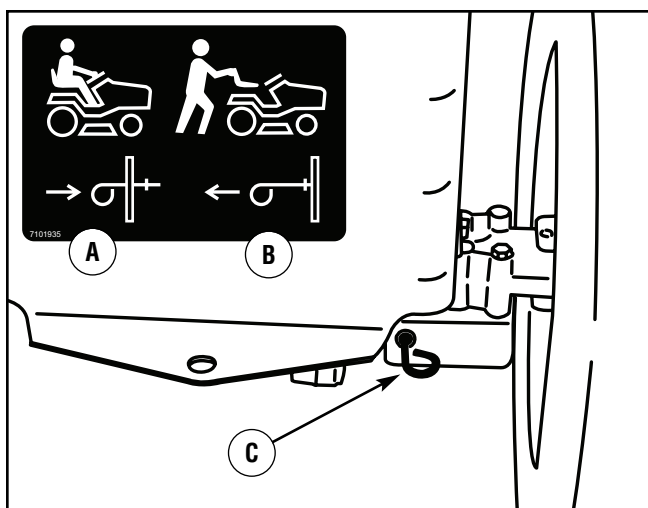

Figure 13: Automatic drive disconnect
2. Pull out and lock the **automatic drive disconnect** in the PUSH position (Figure 13). The transmission is now released and the unit can be pushed.